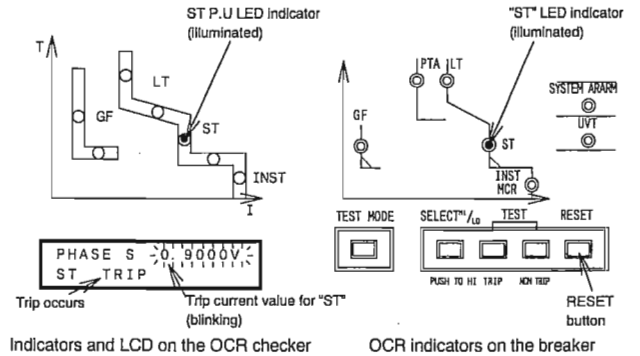

Fig. 17 Indications appearing when short time delay trip occurs
(7) If the output is turned ON and the short time trip function is activated, indications appear as illustrated in Fig. 17 after the given time has elapsed. When the “ST” LED indicator in Fig. 17 is illuminated, this indicates that the OCR has tripped. If the breaker operation is tested together, the breaker turns OFF. At this time, the OCR checker automatically turns OFF the output signal.
(8) Press the RESET button (see Fig. 17) located on the controls section of the OCR. The “ST” LED indicator will turn OFF. Also press any of the switches located on the OCR checker. The trip indication on the OCR checker will turn OFF. At this time, the output signal value set in step (4) will appear.
(9) Repeat steps (4) through (8) using different values near the evaluation standard value [ $V_T$ ], and measure the minimum tripping value and the maximum non-tripping value. The minimum tripping value is the trip current value for “ST”.
(10) Compare the trip current value for “ST” with the evaluation standard value [ $V_T$ ]. If the trip current value for “ST” falls within the range defined by the evaluation standard value [ $V_T$ ], the trip current setting value for “ST” is normal.
- (11) To perform the test for a different test phase, repeat the steps starting with step (2).
- (12) After the test, put the setting values on the OCR, which have been changed in step (1), back to the previous ones.